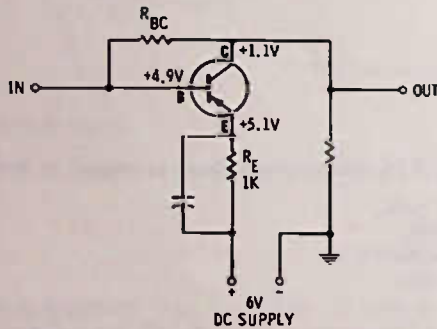

Fig. 8-18. Circuit for Questions 9, 10, and 11.
9. In Fig. 8-18, the bias voltage on this transistor amplifier is
10. In Fig. 8-18, without the bypass capacitor around the emitter resistor, this circuit would
11. In Fig. 8-18, if resistor R_{BC} were made smaller (less resistance) so that the base voltage decreased to +4.8 volts, you would expect the emitter voltage to